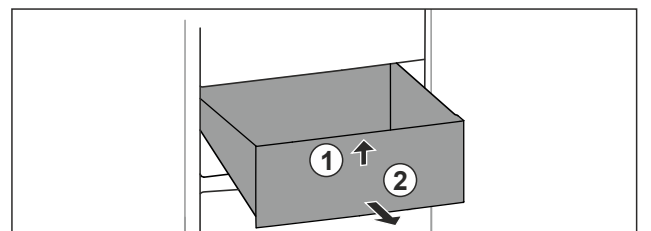

Fig. 75
- ▶ Lift up drawer at the front. Fig. 75 (1).
- ▶ Remove drawer to the front. Fig. 75 (2).